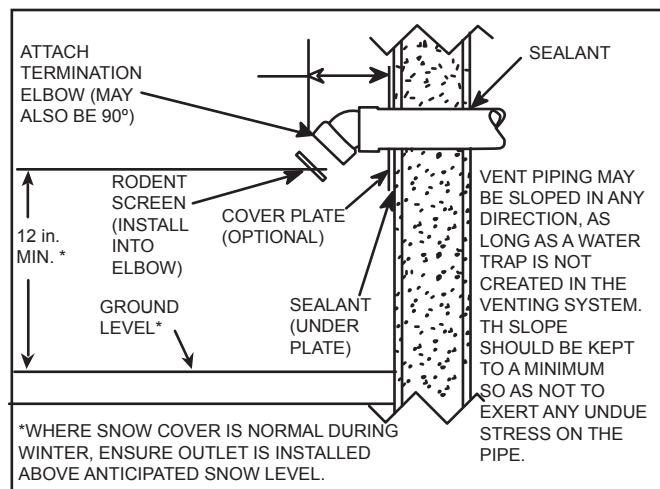
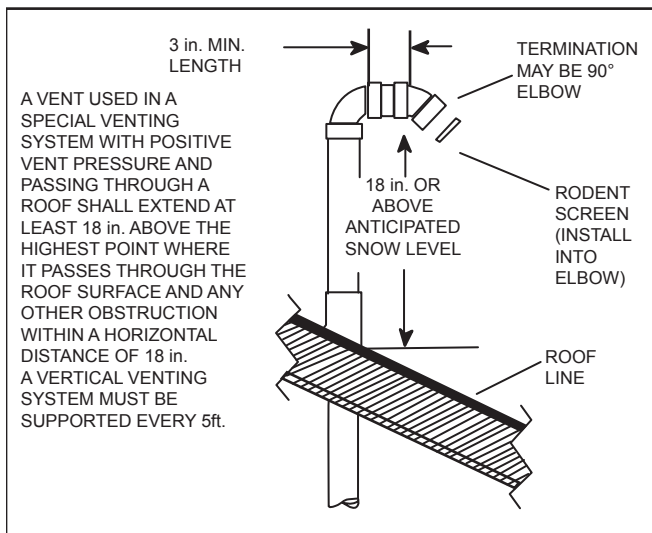
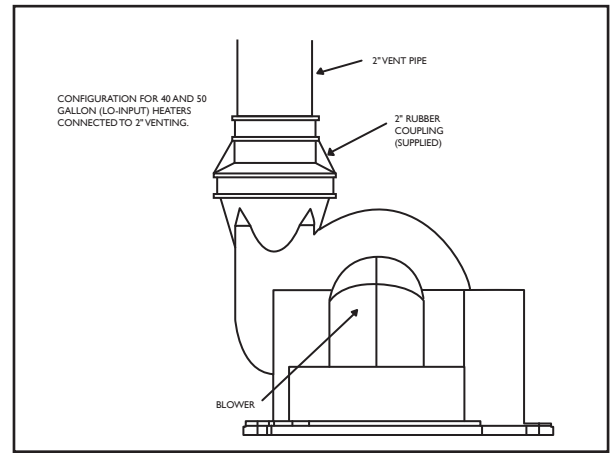
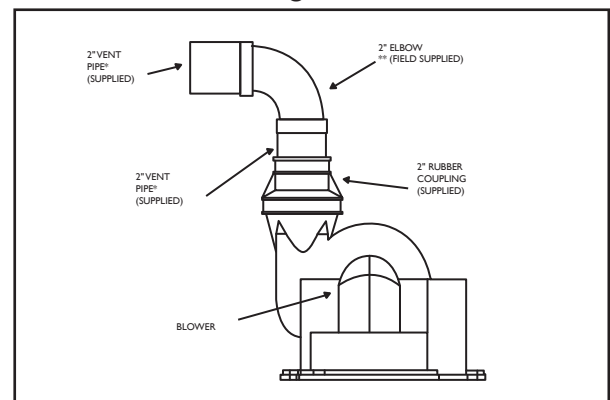

Fig. 16
Fig. 18
Fig. 19
Fig. 22
This heater is designed to exhaust the products of combustion (flue gases) to the outdoors using a sealed piping system. Table 1 lists the allowable vent materials and sizing information. Figure 16 through Figure 18 show various end termination details and clearances. Connection of the venting piping to the blower is shown in Figure 19 through Figure 22.
9. Insert the vent piping through this hole and secure into position. Connect the vent pipe to the end termination elbow as shown in Figure 16 through Figure 18.
1. The vent piping connects into the rubber coupling located on the top of the blower assembly. This coupling includes gear clamps to connect the venting to the blower. These connections must be properly seated and tightened to prevent the leakage of flue gases into the area. See Figure 19 through Figure 22.
6. If the outlet vent pipe is to be turned horizontally directly off the blower, a 3 in. long section vent pipe shall be used to connect the elbow to the rubber coupling (see Figure 22).